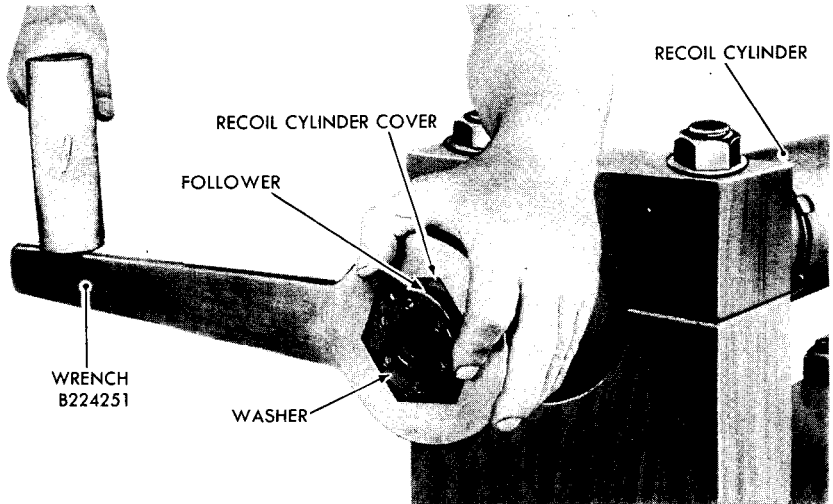
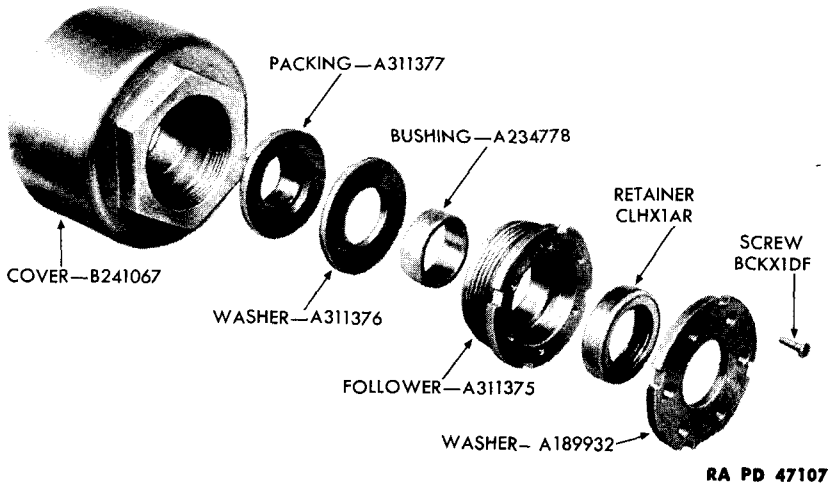
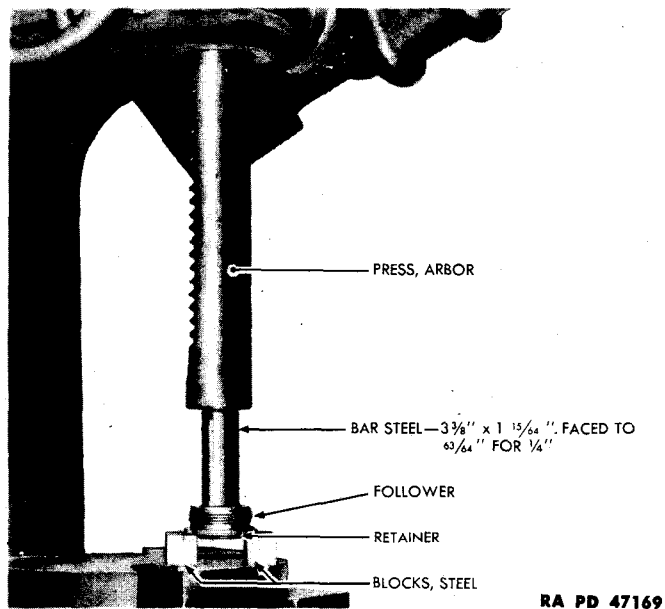

Figure 79 – Removing Recoil Cylinder Cover Assembly
Figure 80 — Recoil Cylinder Cover — Exploded View
Figure 83 — Removing Retainer and Bushing from Follower
d. Remove Recoil Cylinder Cover Assembly. Loosen follower (adjustable spanner wrench TKLX1A) (fig. 78) to which is assembled a washer. Then remove cover (wrench B224251) (fig. 79). It is necessary to jar cover loose by striking wrench handle with a heavy hammer. **NOTE:** The following parts are assembled to cover and are removed with cover: washer, six screws, follower, retainer, bushing, washer, and packing (fig. 80).
g. Disassembly of Recoil Cylinder Cover. Remove follower (adjustable spanner wrench TKLX1A) from cover (fig. 78). Remove six screws that secure washer to cover (fig. 80) and lift fiber washer from cover. Pry out leather washer from cover. Pry out packing from cover. Press out retainer and bushing from follower (par. 36 b (4)).
(1) Clean all parts thoroughly with SOLVENT, dry-cleaning, and dry with compressed air or CLOTH, wiping.
(2) Visually inspect buffer screw. If threads are flattened or damaged, file threads. Inspect screwdriver slot. If burred, remove rough edges with mill file.
(3) Visually inspect spring. If broken, replace. Examine end coils of spring. If burred, remove burs with mill file.
(4) Visually inspect valve. All openings and orifices should be clean and free from dirt and foreign matter. If valve openings are clogged, use a $\frac{1}{16}$ -inch wire to remove dirt and foreign matter. Inspect edges of valve. If burred, roughened, or scratched, smooth out with mill file and polish valve with CLOTH, crocus.
(5) Visually inspect nut. If threads are burred, remove burs. If corners of nut are rounded or damaged, straighten edges of nut by filing.
(6) Visually inspect washer. If torn or distorted, replace.
(7) Visually inspect packing. If torn or damaged, replace.
(8) Visually inspect gasket while installed in buffer. If damaged so that it fails to seat properly and thereby causes leakage, notify proper personnel so that gasket can be removed on a lathe. Replace with new gasket.
b. Inspection and Repair of Cover Assembly (fig. 80).
(1) Visually inspect cover. If corners of nut end of cover are roughened or burred from use of loose fitting wrenches, remove roughened or burred surfaces. Examine internal threads. If burred, clean out threads.
(2) Examine packing. If distorted or torn, replace packing.
(3) Examine washer. If distorted or torn, replace washer.
(4) Examine bushing which is assembled inside follower and if burred, remove burs and polish with CLOTH, crocus. If bushing is worn, drive out bushing (fig. 83). Place follower on two steel blocks (1 inch square by 4 inches) in arbor press in such a manner that the steel blocks will support follower and allow retainer and bushing to be pushed downward between the steel blocks and out of follower. Place small end of improvised driving tool (round steel bar, $3\frac{3}{8}$ by $1\frac{5}{6}$ inches faced to $\frac{6}{64}$ inch for $\frac{1}{4}$ inch) in follower and against bushing. Pull handle of arbor press downward and drive out retainer and bushing from follower.
(5) Examine threads of follower (fig. 80). If burred, remove burs. Examine screw holes in follower. If damaged, recut threads.
(6) Examine retainer. If scored or burred, replace retainer.
(7) Examine fiber washer. If distorted or torn, replace washer.
c. Install Recoil Cylinder Cover on Sleeve. The following parts are assembled to the cover and are installed with the cover: packing, washer, bushing, retainer, follower, six screws, and washer (fig. 80). Screw cover onto sleeve (wrench B224251) (fig. 79). Tighten cover securely by tapping wrench.